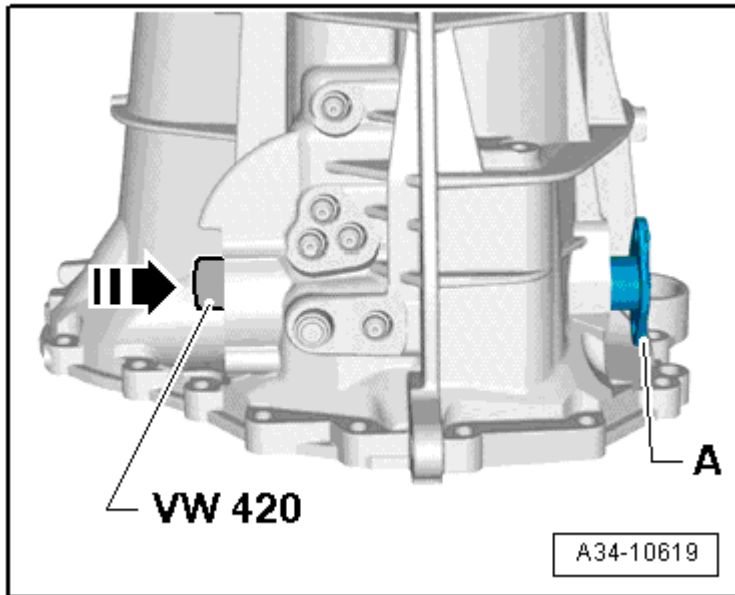

Fig. 62: Removing And Installing The Gearshift Shaft Cover -A-
- Removing and installing, refer to **Fig. 62**